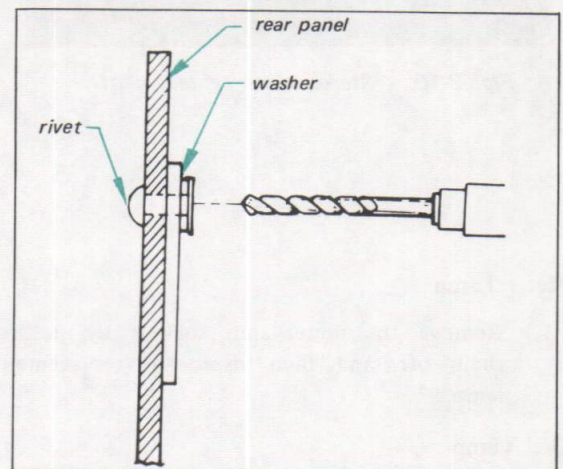

Fig. 2-15. Rivet removal
2. Bore out the rivets using a drill bit slightly larger in diameter than the rivet. See Fig. 2-15.